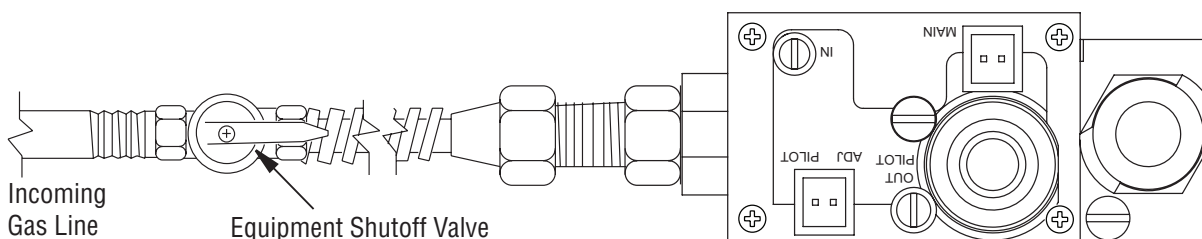

Figure 30 - Turning Equipment Shutoff Valve to the OFF Position
5. Turn equipment shutoff valve clockwise to the OFF position (*see Figure 30*). Do not force.